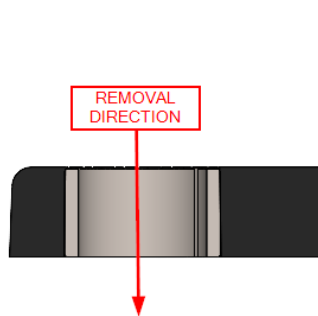
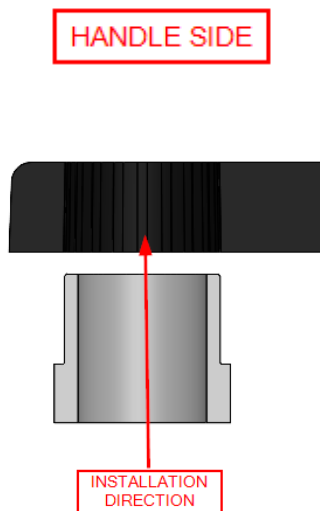

FIGURE 1
FIGURE 2
4. Remove the original low profile compression limiters (Figure 1) from HVB housing and replace them with RP2286 Compression limiters (Figure 2 / 3).